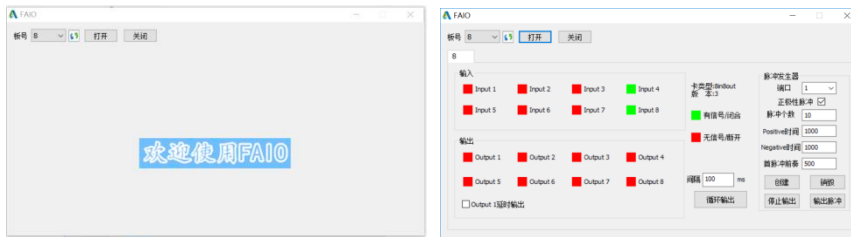

Figure 2.7.3 FAIO Start and Operation Interface
(3) Open  FAIOApp.exe and select the board number (the second port of the virtual COM port pair created by the virtual serial port software, which is 8 in Figure 2.7.3), then click the "Open" button.